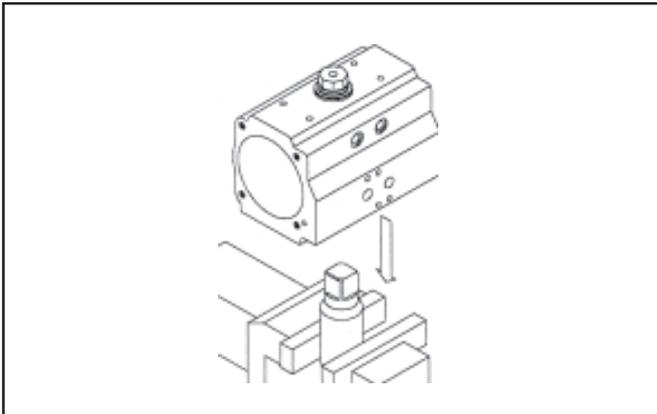

Fig. 22
(Figures 22, 23, 24a, 24b and 25)
- Install piston O-rings (16), the Piston skirt (5) and piston head (15) bearings.
- Grease the internal surface of the body (29) and the piston (25) rack teeth.
- Hold the body (29) in a horizontal position by inserting the top of the shaft into a vice or the bottom of the shaft connection into a male drive fitted in a vice as shown in figure 22.